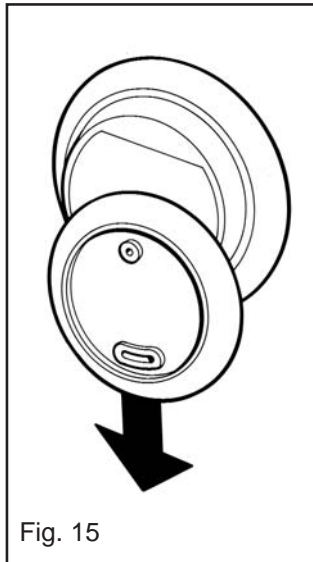

Fig. 15
- Remove backplate from the rear of the Handset by sliding down with hand and away from the Handset (See Fig. 15).